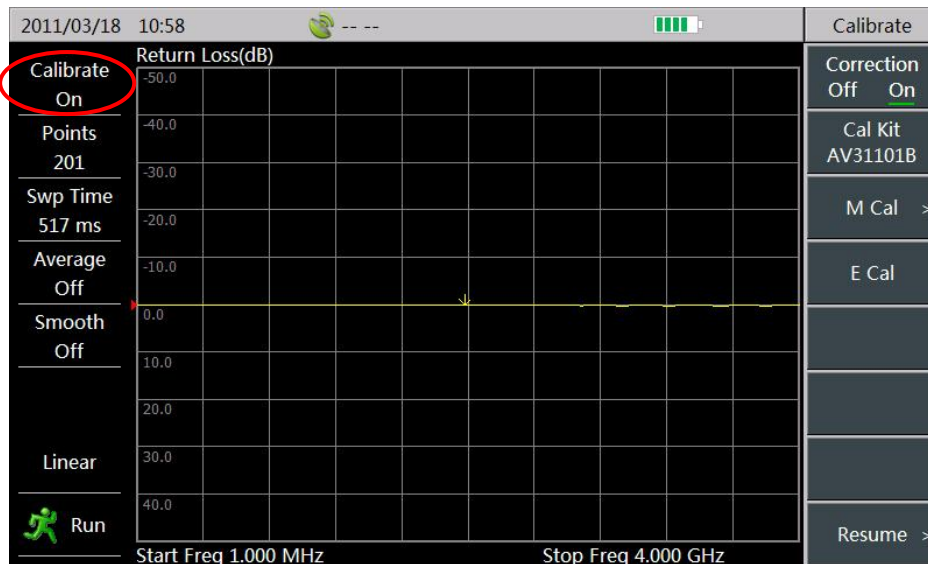

Figure 3-10 Calibration Switch is on
6) After completing calibration, the top of information display area and the top of menu bar on the left side show “Calibrate On.” As shown in Figure 3-10. Connect the load with the port, observe the curve displayed in the screen, which indicates a proper calibration if the curve value is under 42dB (return loss measurement format) and instructions for proper calibration. After disconnecting the load with the port, connect DUT for measurement.